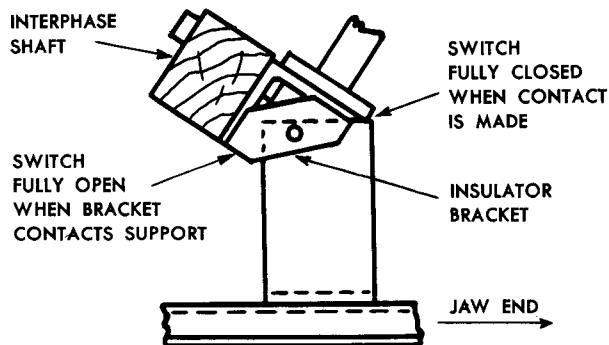

Fig. 3a. Attaching wood interphase shaft.
a. For wood: Drill holes in the INTERPHASE SHAFT as indicated in Fig. 5. Place the INTERPHASE SHAFT against all three single-pole INSULATOR BRACKETS and bolt on as indicated in Fig. 3a.